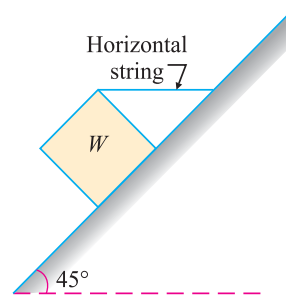

Fig. 8.26.
3. A rectangular prism (*W*) weighing 150 N, is lying on an inclined plane whose inclination with the horizontal is shown in Fig. 8.26.